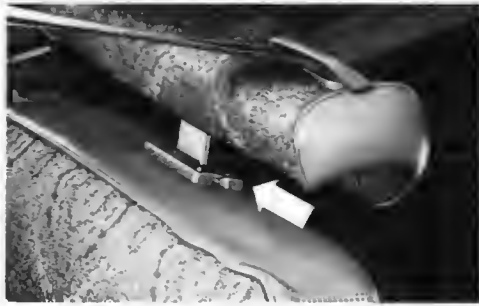

FIG. 1-14: HEAD RESTRAINT LATCH
- To lower; release latch at base of supporting rod and push down on restraint, Fig. 1-14.